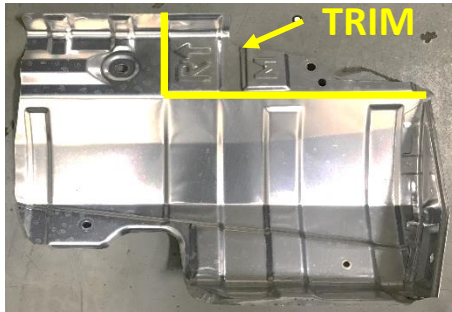

Figure 2
- 1. Lower underbody panel** – Remove (2) M6 bolts from the driver side frame rail. The panel will be reinstalled over the hitch.
- 3. Trim heatshield** - Using a 10mm socket, remove (4) screws holding heat shield to vehicle. Using tin snips, trim the heat shield as shown in figure 2. Reinstall after trimming leaving out the rearmost M6 bolt on the frame rail for the heat shield.
1. Lower underbody panel – Remove (2) M6 bolts from the driver side frame rail. The panel will be reinstalled over the hitch.
3. Trim heatshield - Using a 10mm socket, remove (4) screws holding heat shield to vehicle. Using tin snips, trim the heat shield as shown in figure 2. Reinstall after trimming leaving out the rearmost M6 bolt on the frame rail for the heat shield.